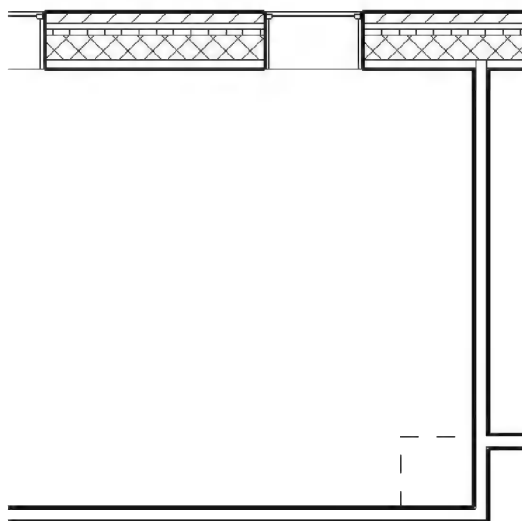

FIGURE 11-2.2 First cabinet placed
5. Place the cabinet as shown in **Figure 11-2.2**.